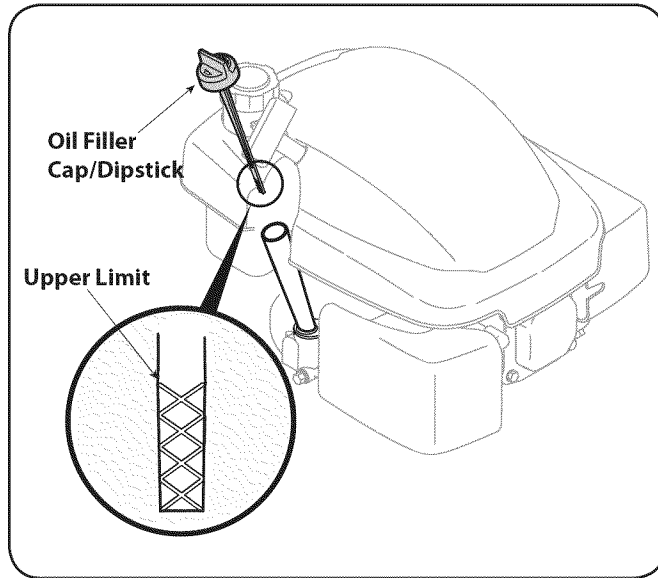

Figure 3-3
1. Remove the oil filler cap and wipe the dipstick clean. See Fig. 3-3.
3. Remove dipstick. If the level is low, slowly add oil to the upper limit on the dipstick. See Fig. 3-3 inset.